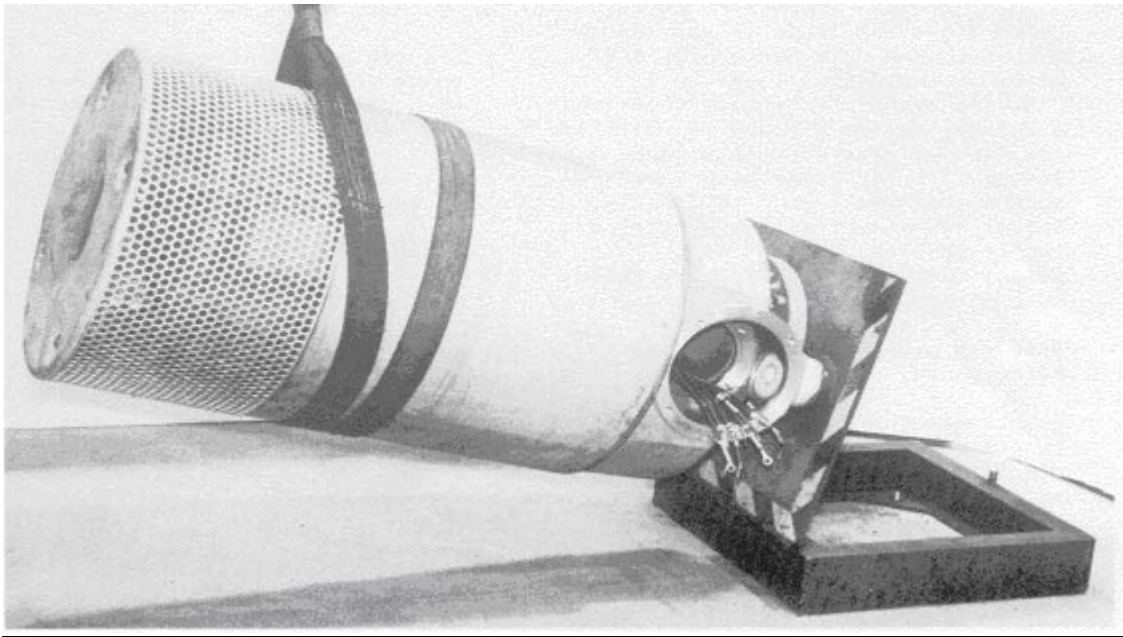

Fig 22
- Put in place the strainer P/N W491007 using nuts P/N W54215 (x4) . Then return the pump **Fig 22** and screw in place lifting eyes P/N W494085 and the pump discharge (See discharges available page 6) .